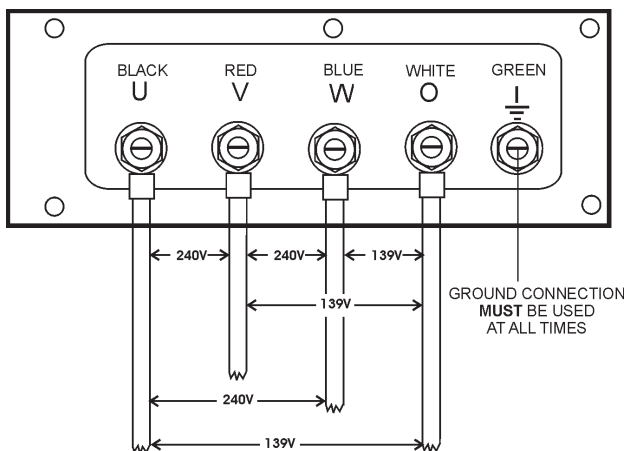

**Figure 20. UVWO Terminal Lugs
2. Connect the load wires to the UVWO terminals as shown in Figure 20.